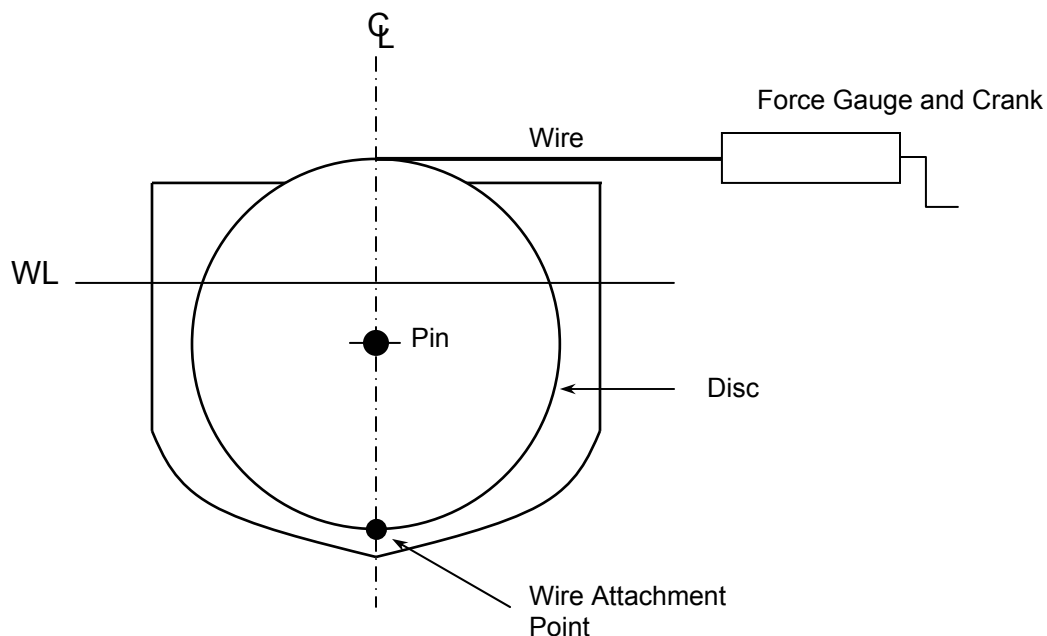

Figure 1 – Stern view of 27-B-1 apparatus
1. The apparatus used in this lab is exactly the same as for Labs 5 and 6. As a review, the stern view of the 27-B-1 model is shown in Figure 1. In this lab the curve of intact static stability will be constructed for three conditions: